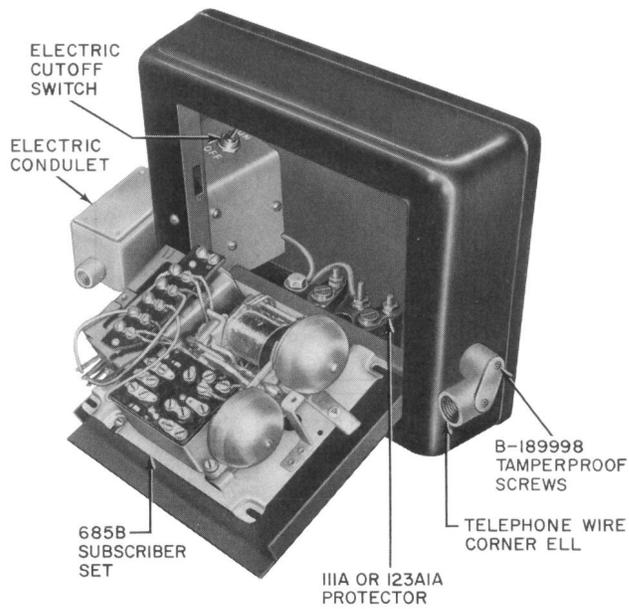

Fig. 11—Subscriber Set Housing Assembly
3.13 Access to the station protector and subscriber set (Fig. 11) is gained by unlocking the subscriber set housing and sliding door to rear until it drops down in front.